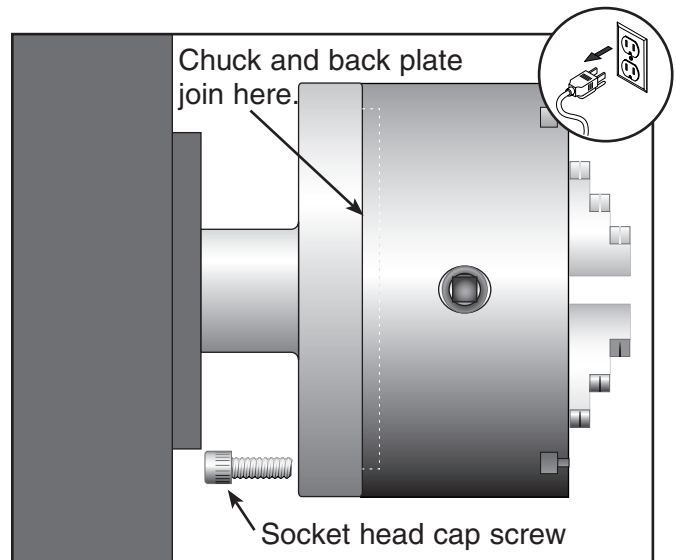

Figure 10. Removing screw from back of chuck.
3. Locate the three socket head cap screws on the back of the back plate and remove two of them. (**Figure 10**).